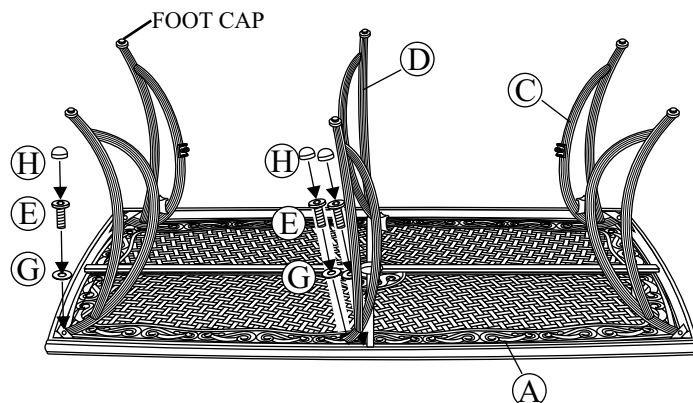

Fig.1
- 1 Place the table top upside down on a flat, non-abrasive surface. Attach a side leg to the table top by using a 1/4"x20 mm bolt and a washer as shown in the Fig.1. Place the leg beneath the table rim corner bracket. Guide the bolt through the hole in the table rim corner bracket and into the pre-drilled hole in the side leg. Hand tighten only. **Do not tighten completely.** Some adjustments may be necessary to ensure proper alignment of the table legs. Repeat for the other three side legs. Attach the middle leg using the 1/4"x20 mm bolts and washers as shown in the Fig.1. Hand tighten only. **Do not tighten completely.** Repeat for the other middle leg.
1 **Important: We recommend 2 people work together to assemble the chair.** Note the arrow labels on the "U" bar and the rocker assembly. Also note the horseshoe shape of the rocker plate. Point the open end of the horseshoe away from you. The arrows on the rocker assembly should be pointing towards you. Set the chair frame on the rocker assembly with front of the seat facing you and the arrows on the "U" bar pointing towards you as shown in **Figure 1**. This is very important for a safe, balanced rocking motion. **If chair frame has been properly positioned on the rocker assembly, all arrows on the "U" bar and rocker assembly will be pointing in the same direction.**